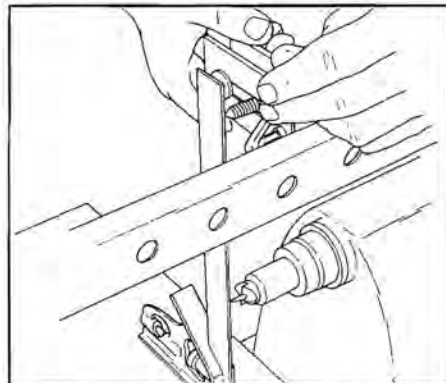

Figure 6. Use a combination square to align the edges of the tips of the left-hand template center with the drive center.
Reposition the square so that its front edge just contacts the front edge of the drive center tip. Adjust the template support assembly so that the front edge of the template center tip just touches the front edge of the square. With the square still touching the edge of both center tips, tighten the two screws (8). (See Figure 6.)